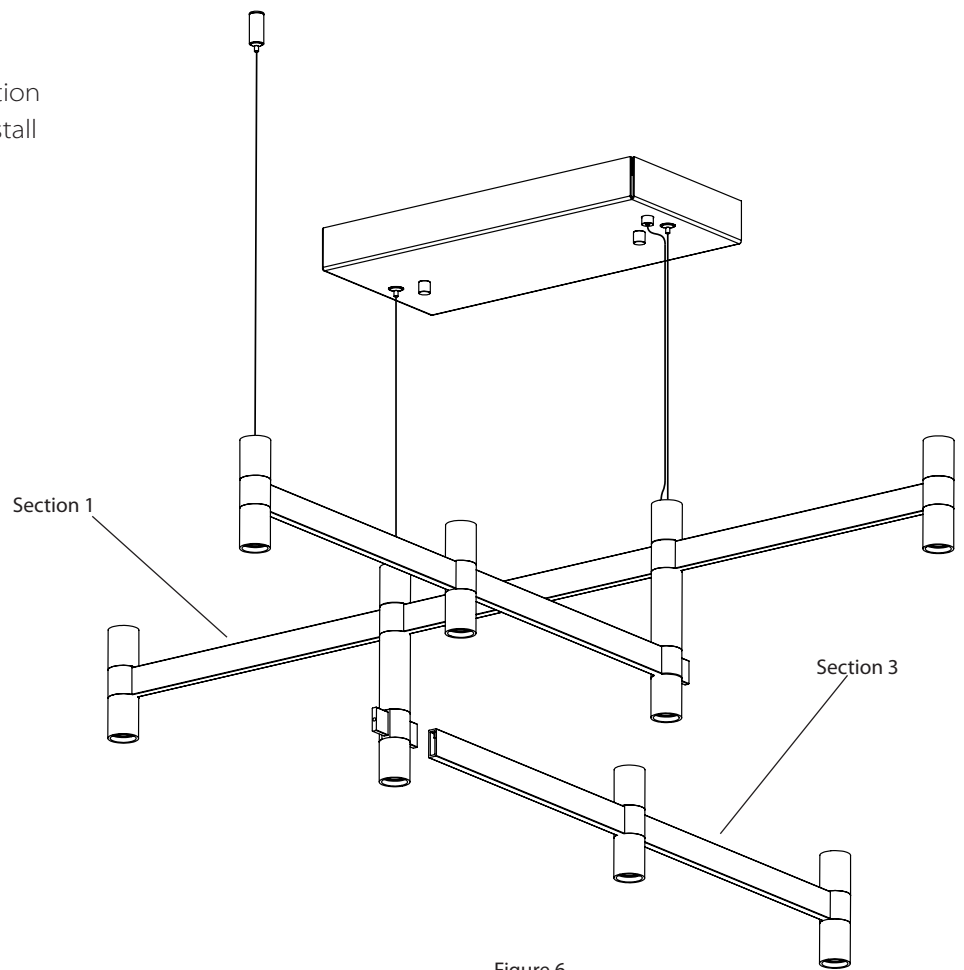

Figure 6
10. Install Section 3 to Section 1 in the position shown (Figure 6) repeating the same install instructions from Steps 8 and 9.